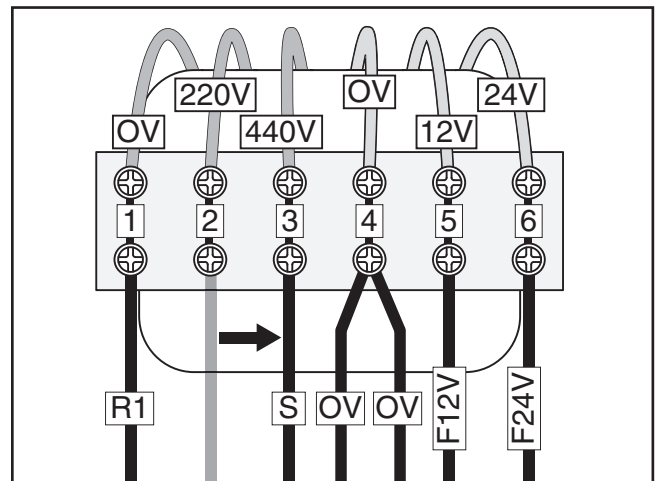

Figure 7. "S" wire connected to the 440V terminal of the voltage transformer.
3. At the voltage transformer, remove the wire labeled "S" that leads to the "220" terminal, and connect that wire to the "440" terminal (see **Figure 7**).